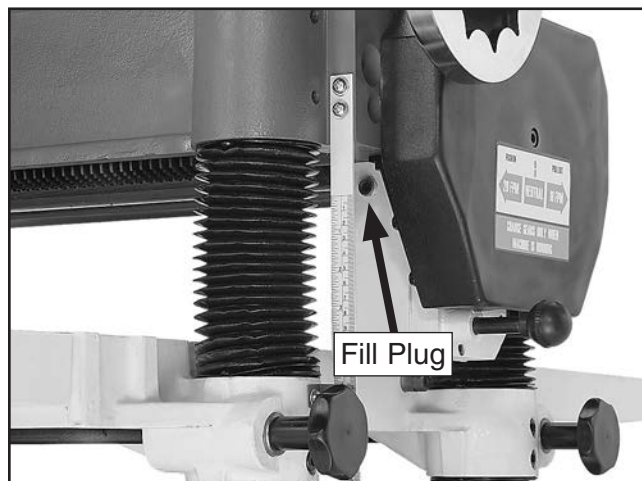

Figure 12. Gearbox fill plug.
1. Remove the gearbox fill plug (see **Figure 12**).